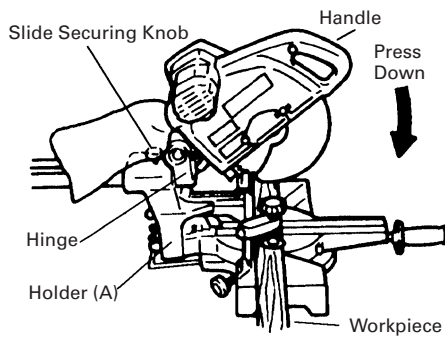

Fig. 22
Slide the hinge down to holder (A), then tighten the slide securing knob as indicated in Fig. 22. Lower the handle to cut the workpiece. Using the power tool this way will permit cutting of workpieces of up to 3-11/32" (85mm) square.